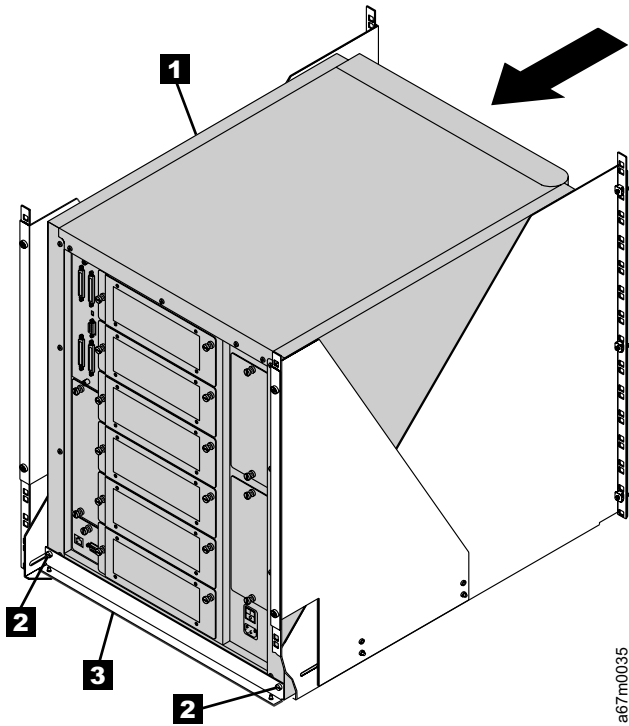

Figure 23. Placing the library into a rack
10. Slide the library ( **1** in Figure 23) onto the rackmount hardware until it stops against the rear stop bracket **3** . Using the two Phillips screws **2** , attach the library to the rear stop bracket **3** . This ensures that the library is secured to the rack and is properly grounded.